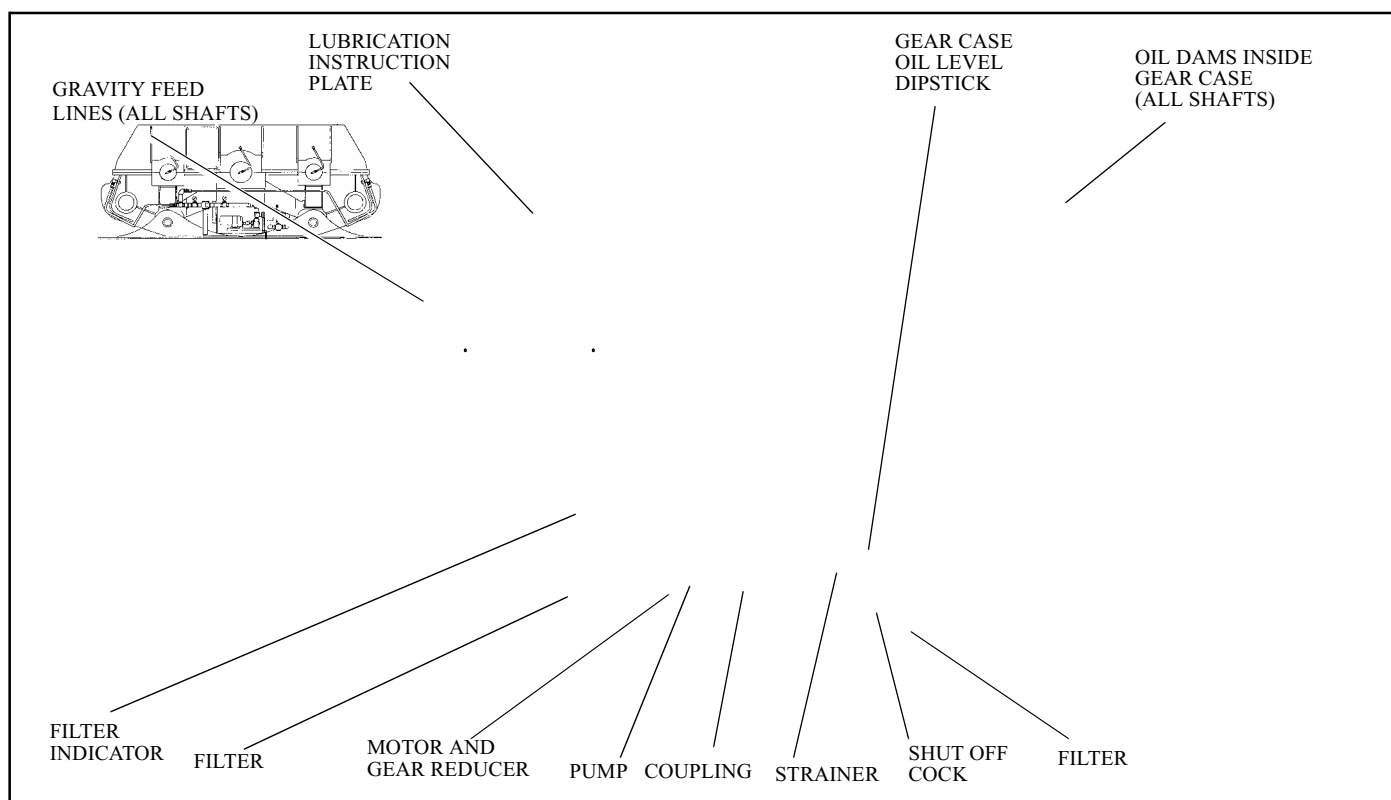

Figure 10-56. Hoist Gear Case Lubrication System
The hoist pinion lubrication system, shown in Figure 10-56, is a self contained system that provides filtered gear oil to the oil tight hoist transmission gear case. A motor driven, 2.5 GPM, positive displacement gear pump draws gear oil from the gear case sump through a strainer and discharges the oil through two large indicator type filters to provide lubricating oil to each of the two input shafts. The other gearing and bearings in the hoist transmission are lubricated by a bath and splash system and a series of dams and gravity feed lines.
DESCRIPTION. The indicator oil filter, as shown in Figures 10-56 and 10-57, works on the principle of pressure drop as the filter gets dirty. The filter is equipped with an automatic bypass valve which opens when the pressure drop across the filter reaches 35 psi (2.42 bar). When this occurs, oil is no longer passing through the filter and the filter cleaned (if wire mesh filters are being used) or replaced. Refer to the lubrication instruction plate located on the side of the hoist gear case for filter element options.
2. Turn the shutoff cock Figure 10-56 to the off position.
INSTALLATION. Refer to Figures 10-56 and 10-59 and install the pump assembly as follows:
6. Open the shutoff cock (Figure 10-56).